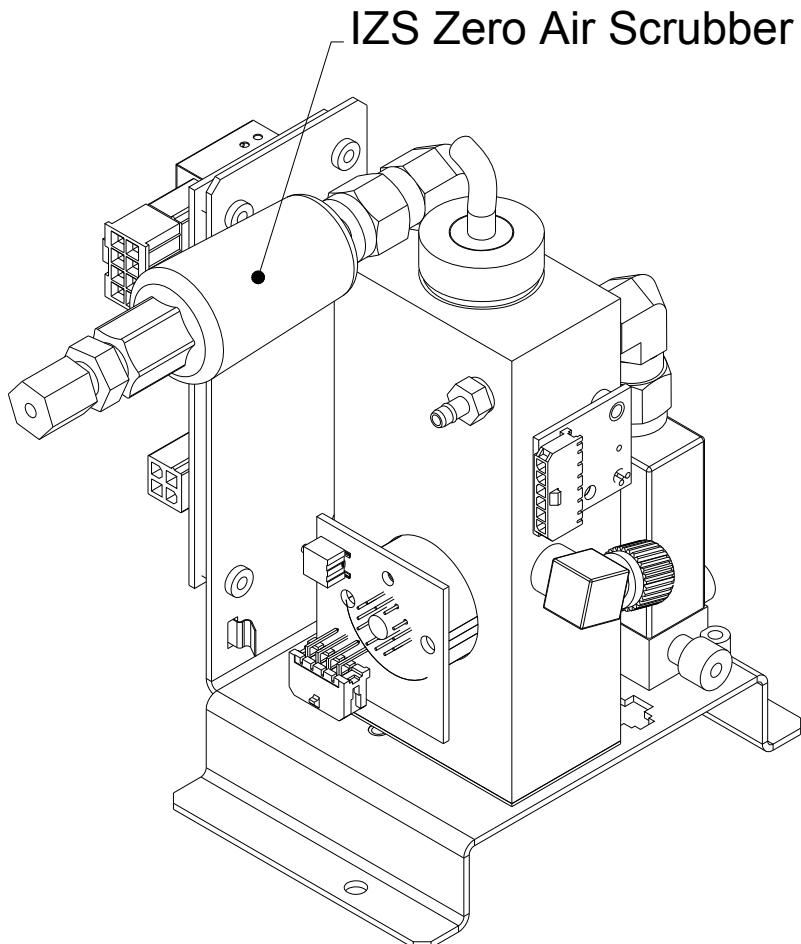

Figure 11-2 Replacing the IZS Zero Air Scrubber
3. Disconnect the white nylon $\frac{1}{4}$ "-1/8" fitting from the Zero Air Scrubber (See Figure 11-2).